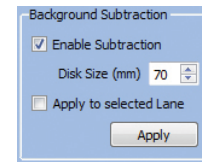

Fig. 4. Lane background subtraction.
- Adjust background subtraction of the lanes by setting disk size to 70 (Figure 4)